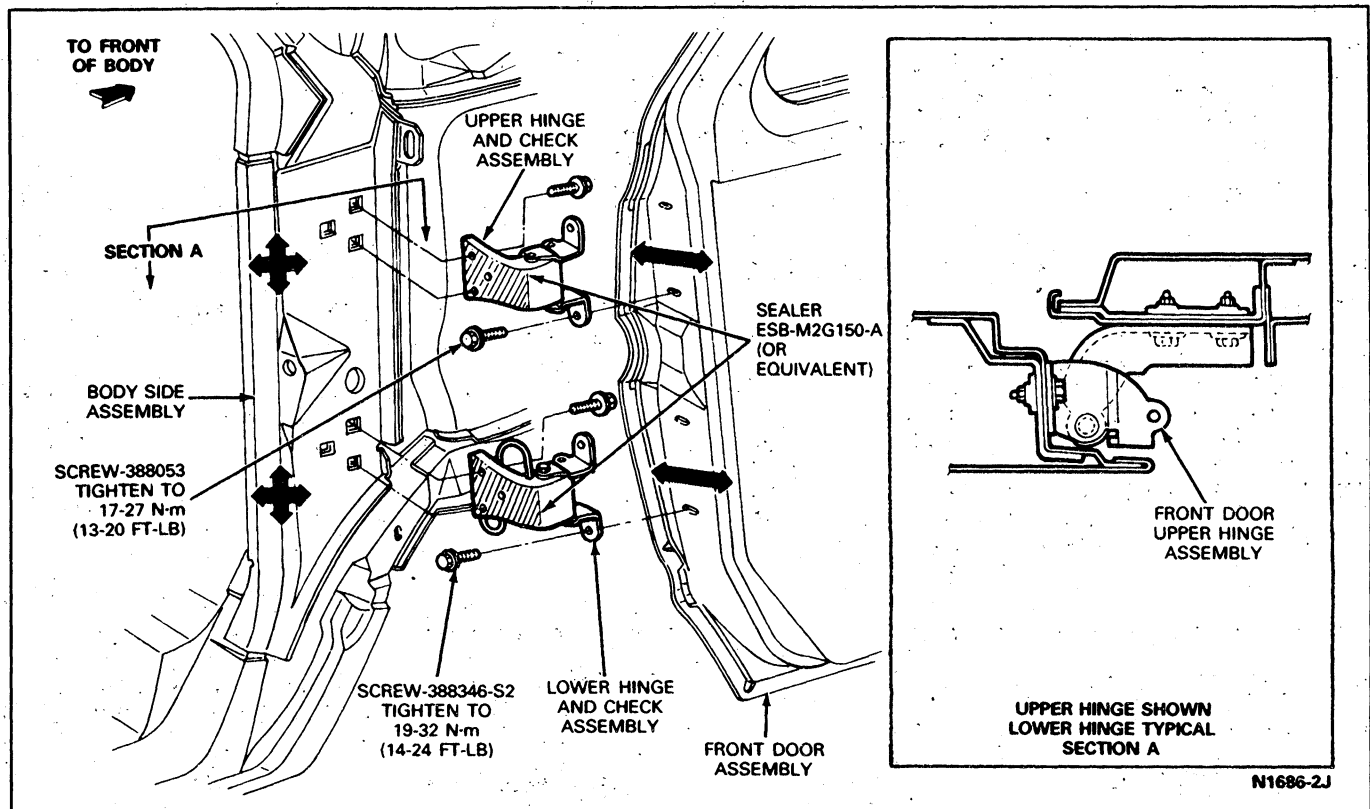

FIG. 1 Front Door Hinge Adjustment—E-150—E-350
3. Remove the door-to-lower hinge retaining bolts (Figs. 1 through 4).
4. Support the door, and remove the door-to-upper hinge retaining bolts. Slide the door off the hinges (Figs. 1 through 4).
8. Position the door on the hinges, and install the retaining bolts snug (Figs. 1 through 4).
front edge of the door must be 4.8mm (3/16 inch) inboard of the upper part of the pillar from the belt line to a point near the top of the door. This adjustment is made by adjusting the upper striker of the RH door inboard 4.8mm (3/16 inch) (Figs. 1 through 4).
3. Remove the hinge-to-body attaching bolts (Figs. 1 through 4).